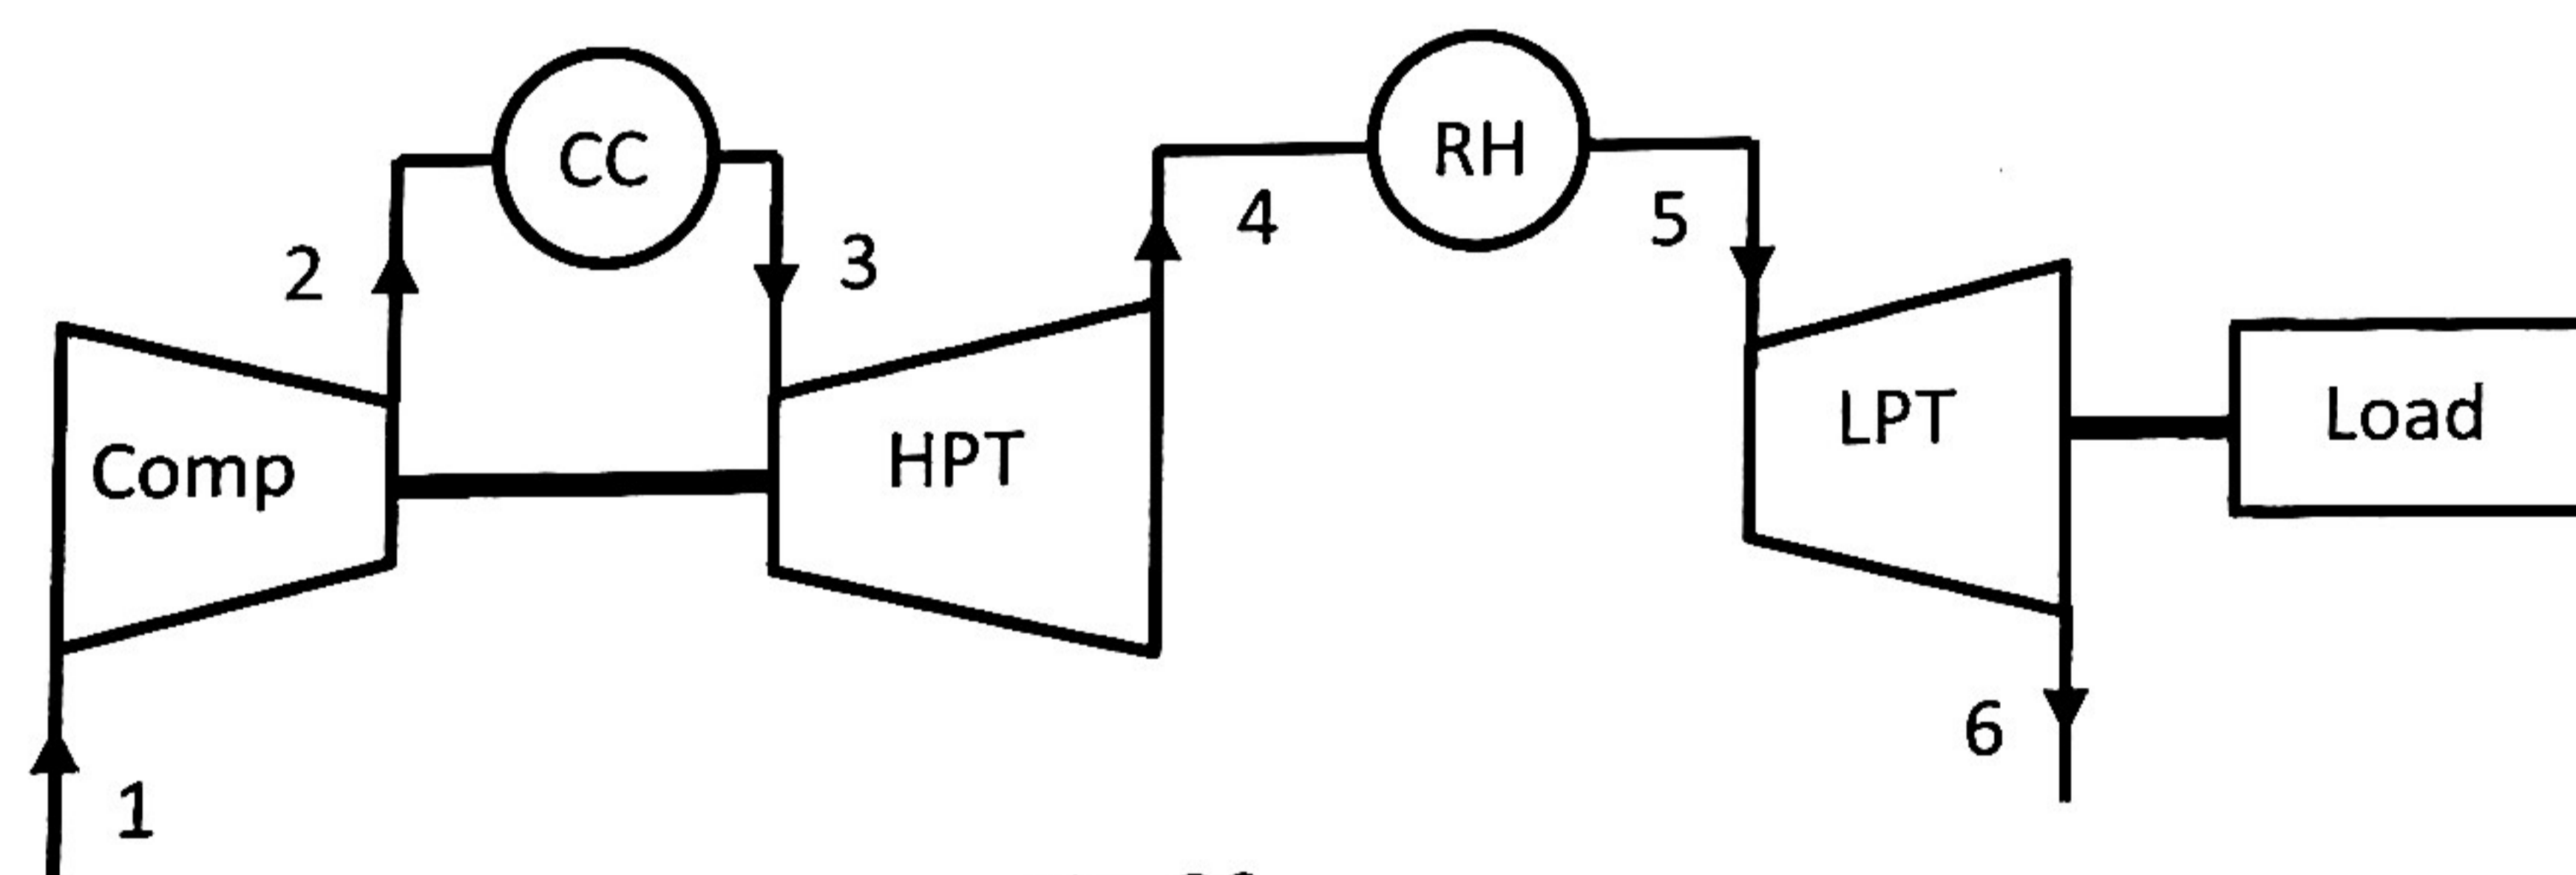

Fig. Q2
- (a) Sketch the processes on Pressure-Volume and Temperature-specific entropy diagrams. (2)
- (i) the specific heats at constant pressure and constant volume; (4)
- (ii) the net specific work transfer; (4)
- (iii) the overall change in specific internal energy; (3)
- (iv) the overall change in specific entropy. (3)
2. In the gas turbine plant shown in Fig Q2, the High Pressure Turbine drives the compressor and the Low pressure Turbine drives the load. There is reheat between the stages.